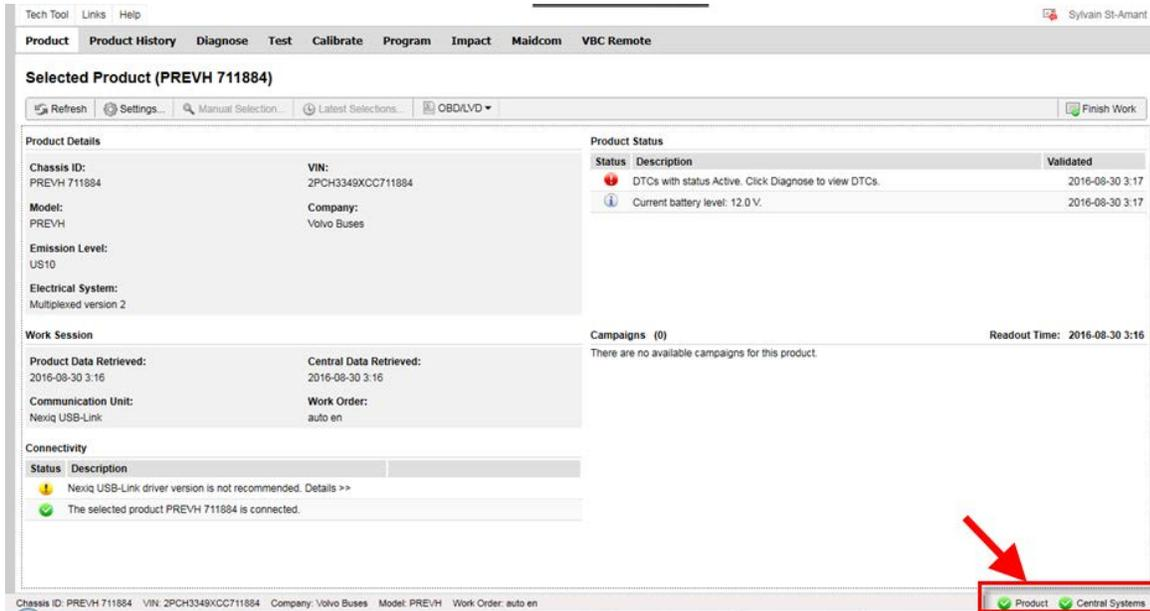

FIGURE 14
2. Premium TechTool should confirm with two green dots that you are properly connected to the vehicle and the central system (FIGURE 14)